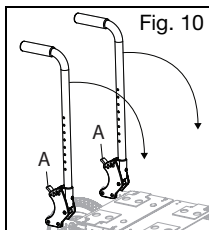

Fig. 10
1. Push the levers (Fig. 10:A) toward the front of the chair to disengage the latches. If the backrest seating is attached, both latches must be disengaged simultaneously in order to allow the backrest to fold.